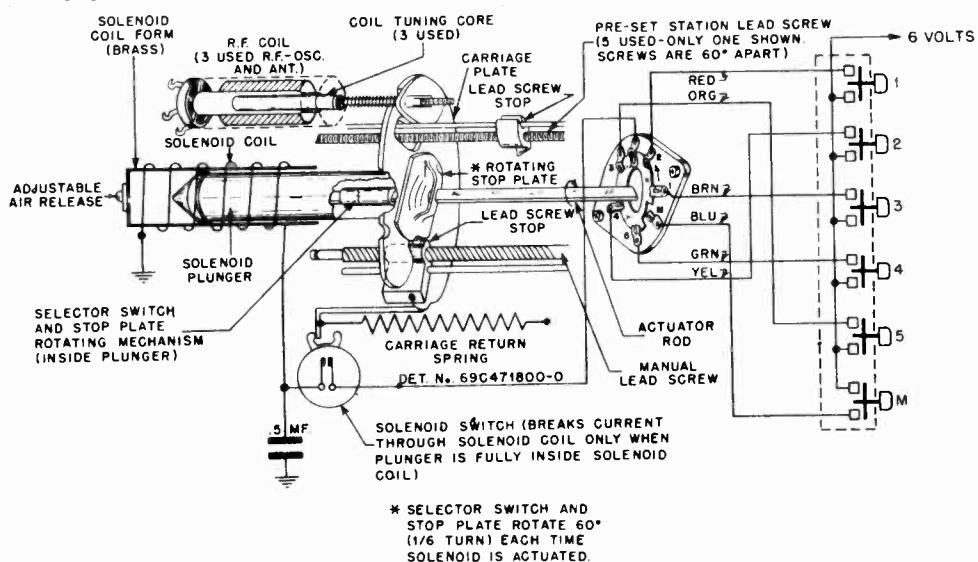

FIGURE 1. TUNER FUNCTIONAL DETAIL
**NOTE:** Throughout this paragraph, it is suggested that constant reference be made to Figure 1.
Dash-pot action between the plunger and the solenoid determines the tuner operating speed. The rate at which air is allowed to enter or escape through the adjustable air release determines the speed of the plunger. See Figure 1.